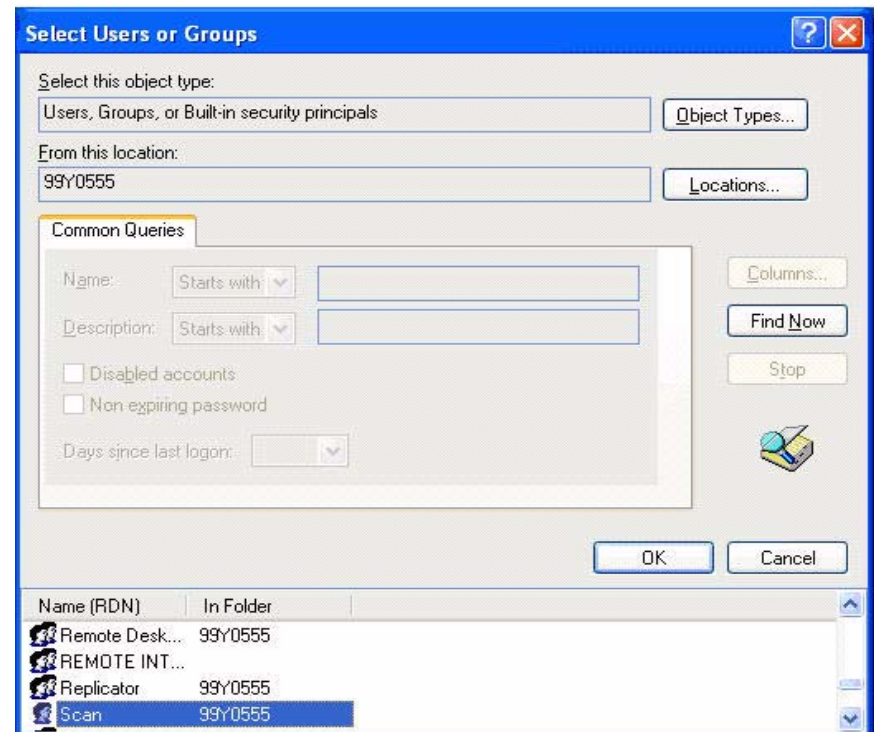

Figure 5 (Select Users or Groups)
6. Select **Find Now**. When the user list is displayed, highlight the user that you just created (Figure 5).